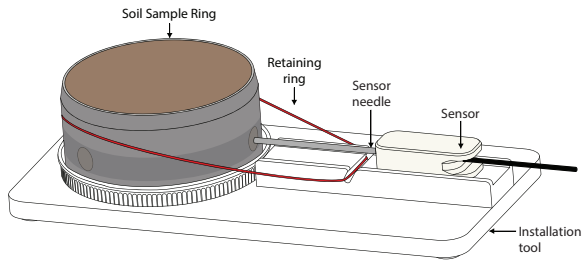

Figure 18 Sensor on installation tool
- Insert the sensor needle all the way into the sample material (Figure 18).
5. Place a retaining ring around the sample ring and into the notch of the installation tool (Figure 18).
6. Place the sensor on the installation tool guide rail (Figure 18).
8. Secure the sensor in place by positioning the retaining ring in the lower notch of the sensor hull (Figure 18).